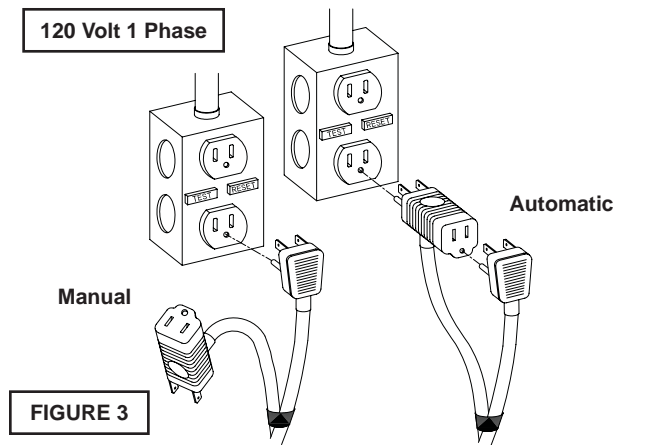

FIGURE 3
- 6.) Figure 3 shows a typical connection for pumps with the wide angle float and piggy-back plug, for manual and automatic operations.
The pressure test may be done with the oil at its normal level. Remove pipe plug (39) from motor housing (6). Apply pipe sealant to pressure gauge assembly and tighten into hole (See Figure 3). Pressurize motor housing to 10 P.S.I. Use soap solution around the sealed areas above the oil level and inspect joints for “air bubbles”. For sealed areas below the oil level, leaks will seep oil. If, after five minutes, the pressure is still holding constant, and no “bubbles”/oil seepage is observed, slowly bleed the pressure and remove the gauge assembly. If the pressure does not hold, then the leak must be located and repaired.